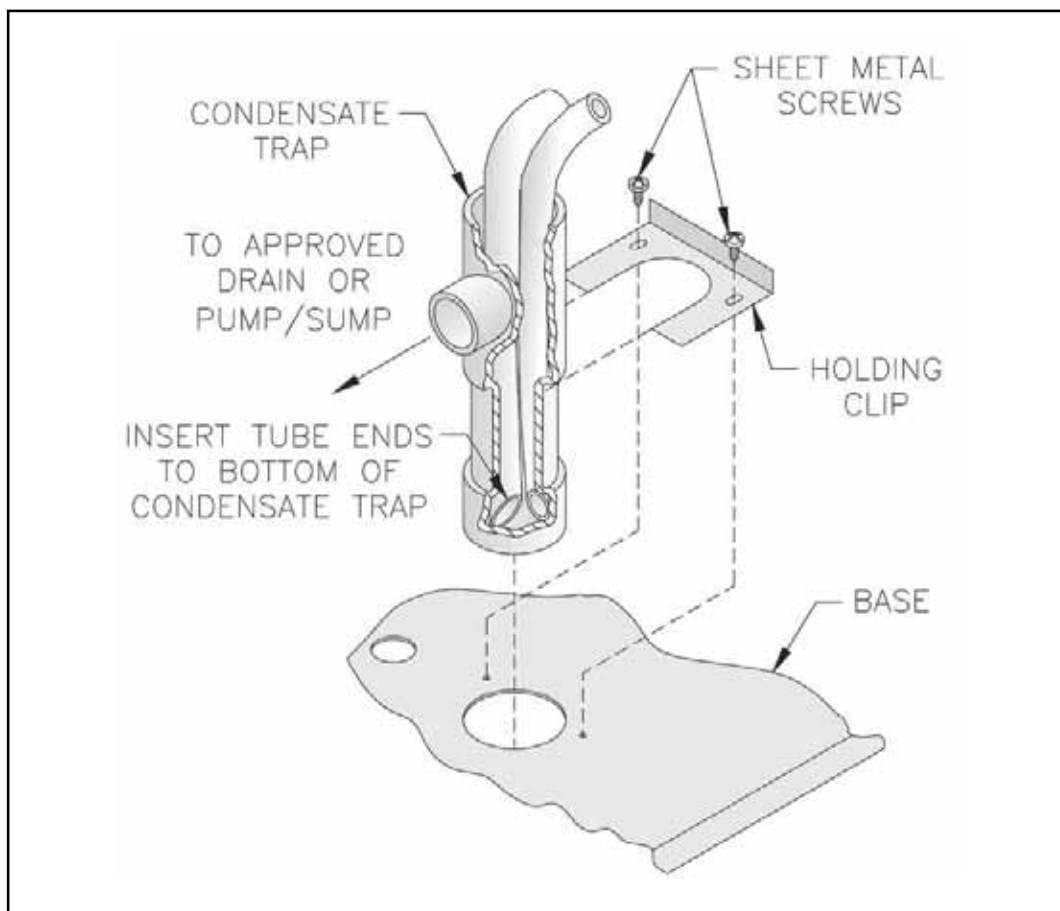

Figure 26: Condensate Trap/Hoses Installation
1. Each boiler contains two (2) condensate drain tubes. Insert both tubes into the condensate trap provided with boiler. See Figure 26.